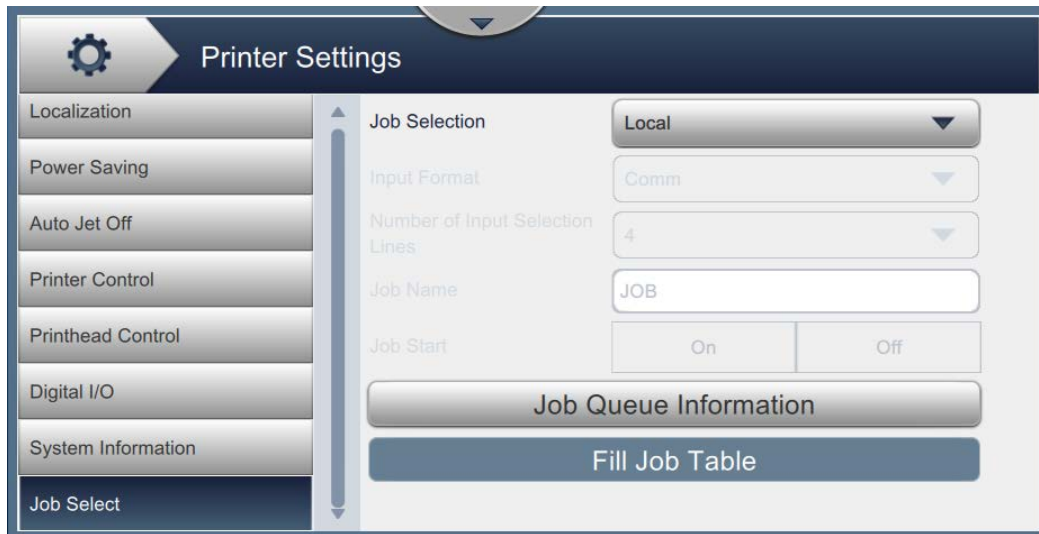

Figure 7-24: Job Select Screen
3. Touch *Job Select* option from the Printer Settings screen as shown in Figure 7-24.